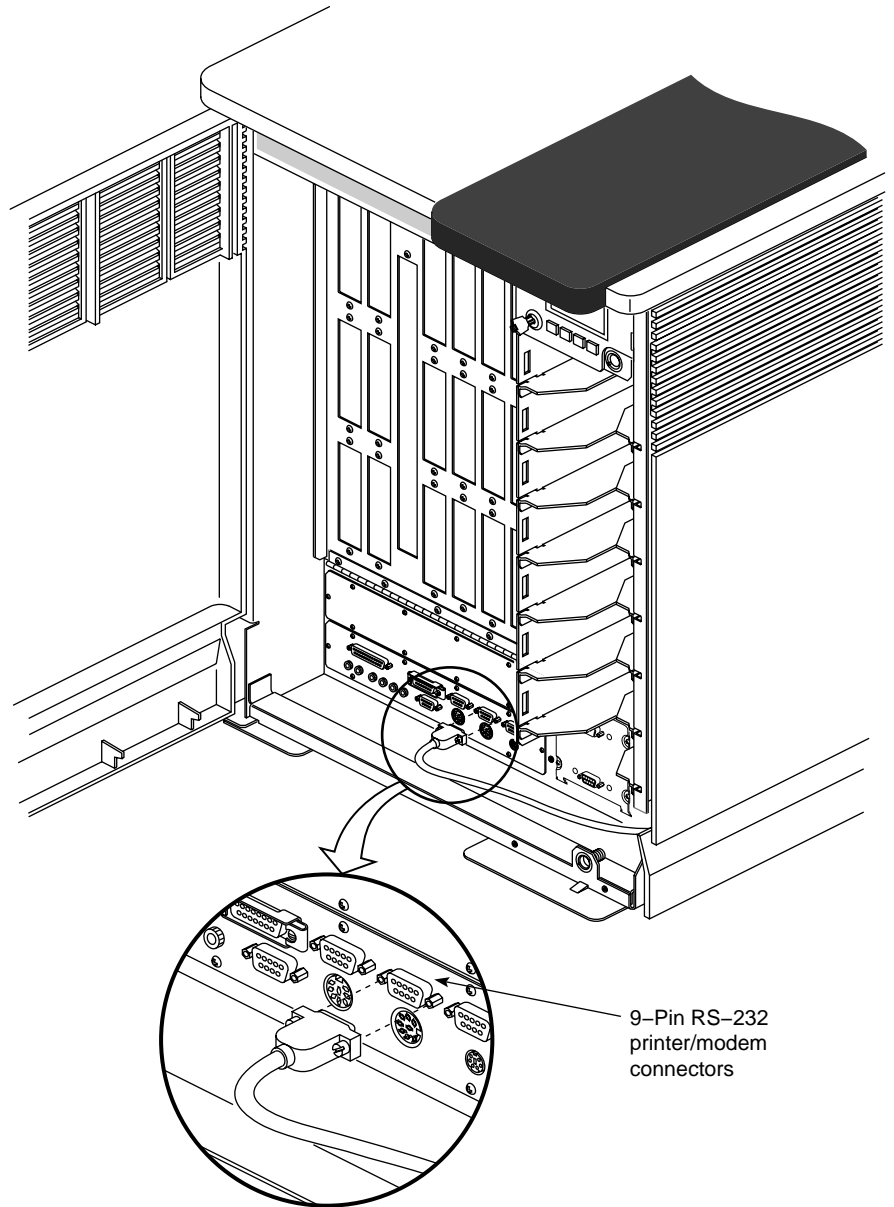

Figure 4-14 Connecting a Serial Printer or Modem
4. Attach the 9-pin connector on the other end of the printer cable to one of the 9-pin serial connectors on the I/O panel, as shown in Figure 4-14.